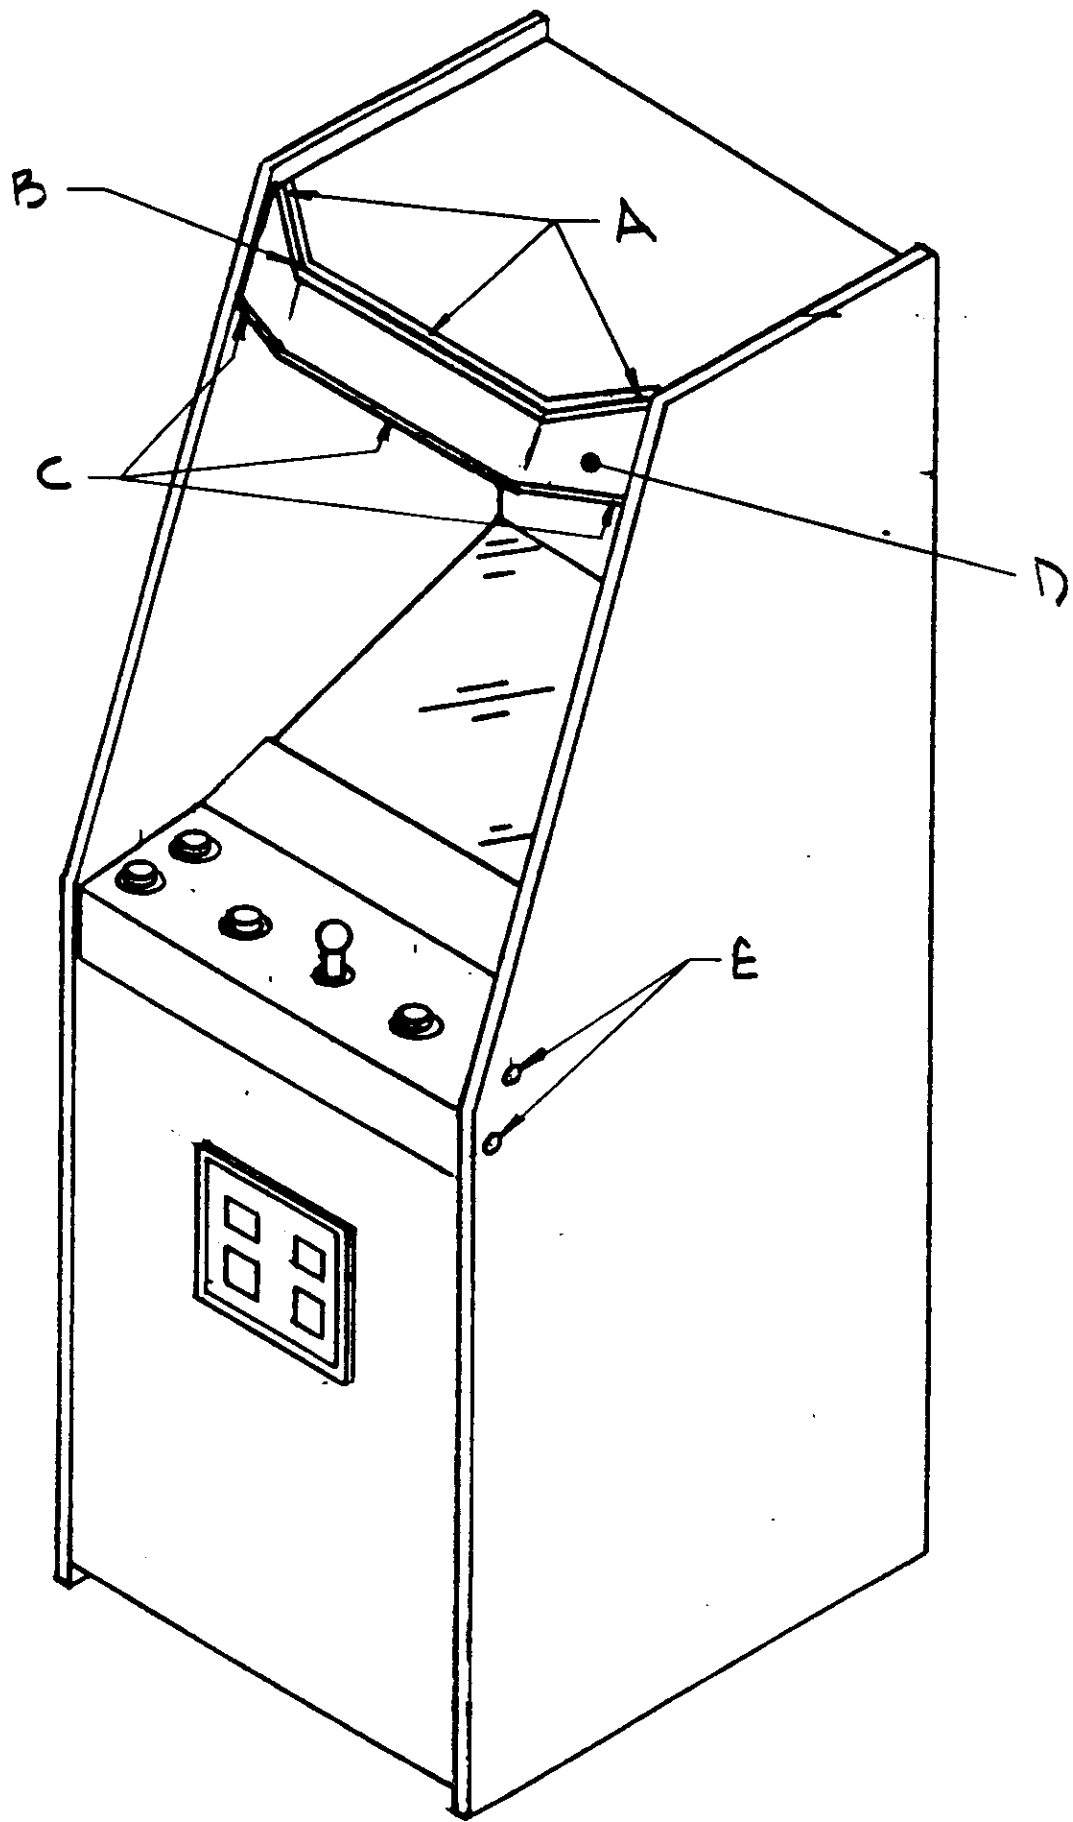

FIG 1
- a. Remove the screws holding the top marquee retainer (fig 1-A).
- b. Remove the top marquee retainer (fig 1-B).
- c. Loosen the screws holding the bottom marquee retainer (fig 1-C).
- d. Remove the old marquee plexi (fig 1-D).
- f. Replace the top marquee retainer and screws (figs 1-A & 1-B).
- g. Tighten the screws holding the bottom marquee retainer taking care to align the new marquee plexi properly (fig 1-C).
- a. Remove four control panel retaining bolts by removing wing nuts inside the cabinet (fig 1-E).
- b. Reinstall bolts and wing nuts (fig 1-E).